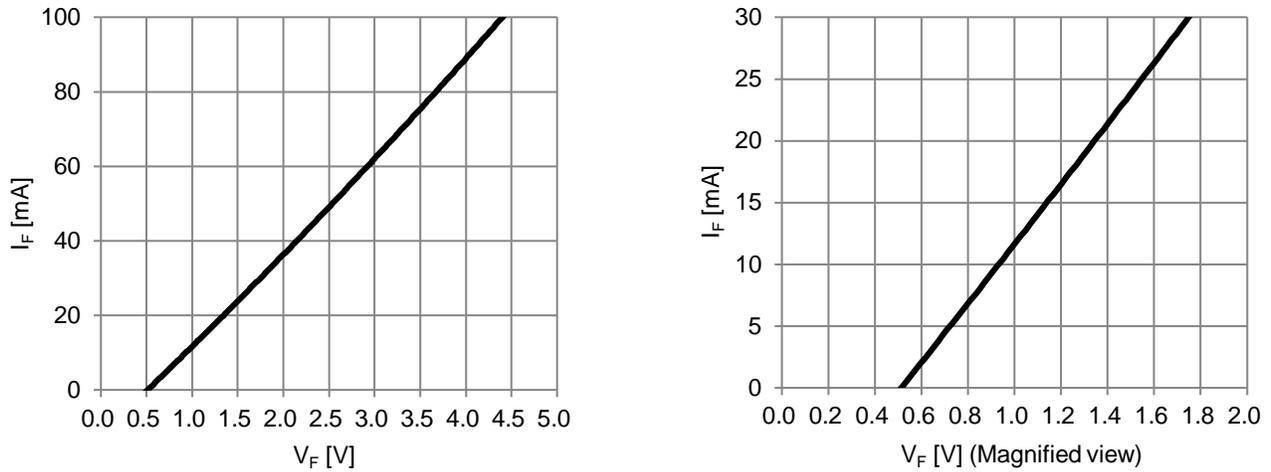

Figure 2. Built-in Bootstrap Diode  $V_F$ - $I_F$  Characteristics
- The characteristics of bootstrap diodes are described in Figure 2.